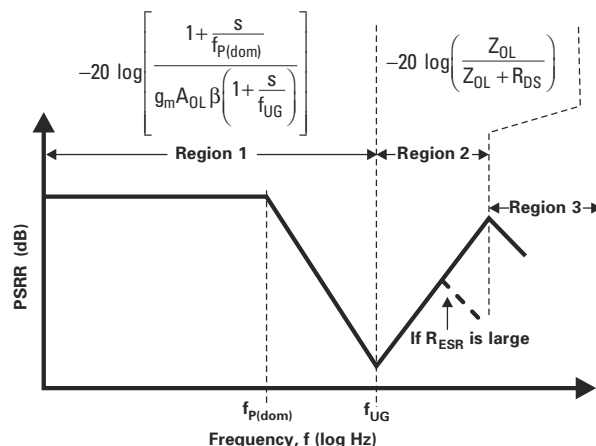
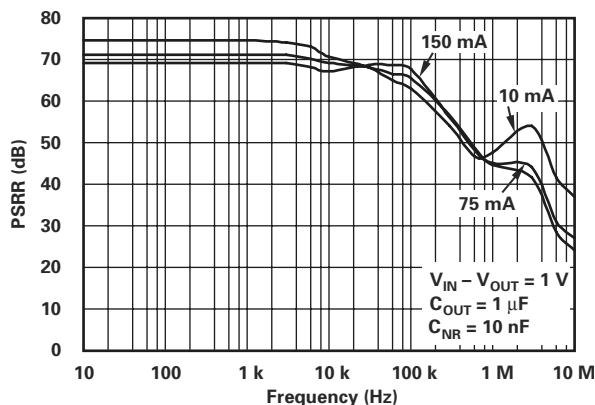

Figure 2. PSRR graph
Figure 3. TPS717xx PSRR graph
Figure 2 shows the general shape of a PSRR curve, where  $f_{P(dom)}$  is the dominant pole and  $f_{UG}$  is the unity-gain bandwidth. If the error amplifier is compensated to have a single-pole response, then the Region 1 PSR for amplifier frequencies below  $f_{UG}$  can be approximated by the equation on the left side of the graph. Designing the regulator with a high-gain, wide-bandwidth error amplifier can therefore provide high PSR over a wide range of frequencies. In Region 2, above the control-loop bandwidth, the regulator is no longer effective at providing PSR, so the PSRR reduces to a simple voltage divider as shown on the right side of the curve. As  $Z_{COUT}$  decreases relative to  $R_{DS}$ , the PSR provided by the passive components on the board increases. If  $C_{OUT}$  has high  $R_{ESR}$ , the PSR peaks sooner. In Region 3, the IC and board parasitic capacitances ( $C_{PAR1}$  and  $C_{PAR2}$ ) dominate, resulting in a capacitive voltage divider, which typically causes the PSR to decrease again.
The TPS717xx family of regulators has incorporated circuit techniques to provide high PSR over a wide frequency range. An example of the PSRR is shown in Figure 3.
With the simple model previously explained, it can be shown that the TPS717xx's dominant pole with  $C_{OUT} = 1 \mu F$  is at approximately 20 to 30 kHz and the unity-gain frequency is near 400 kHz. Since PSR is a function of the open-loop gain, as the gain varies so will the PSR in Regions 1 and 2 of Figure 2. Figure 3 shows the TPS717xx's PSRR varying with load current. As load current increases,  $R_{DS}$  decreases; therefore  $Z_{CL}$  decreases, since a MOSFET's output impedance is inversely proportional to its drain current. In many regulators, where  $f_{P(dom)}$  varies with  $Z_{CL}$ , increasing the load current also pushes  $f_{P(dom)}$  to higher frequencies, which increases the feedback-loop bandwidth. As shown in Figure 3, the net effect of increasing the load current is reduced PSRR.
**Figure 3** A color-space converter provides a flexible and efficient means of converting image data from one color space to another and provides a method for precisely specifying the display of color using a 3-D-coordinate system.